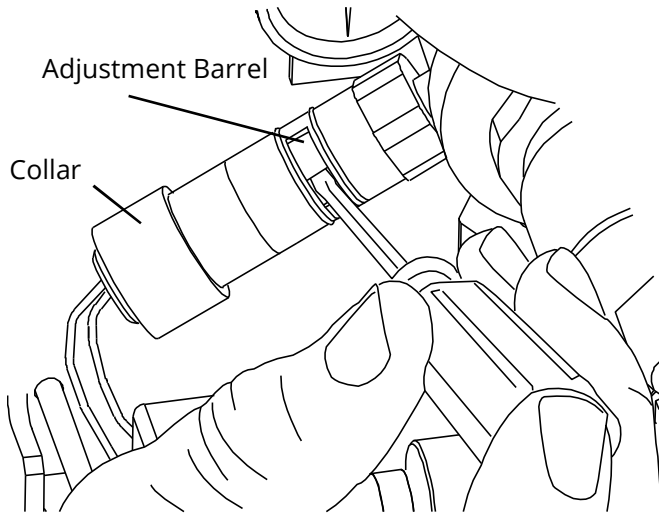

Figure 24
7. If switch adjustment is necessary, slide collar of switch toward wires to access internal adjustment barrel. Insert tip of small screwdriver into adjustment barrel and rotate barrel (Figure 24).
8. If switch adjustment is necessary, slide collar of switch toward wires to access internal adjustment barrel. Insert tip of small screwdriver into adjustment barrel and rotate barrel (Figure 24). See NOTE above.
8. If switch adjustment is necessary, slide collar of switch toward wires to access internal adjustment barrel. Insert tip of small screwdriver into adjustment barrel and rotate barrel (Figure 24).